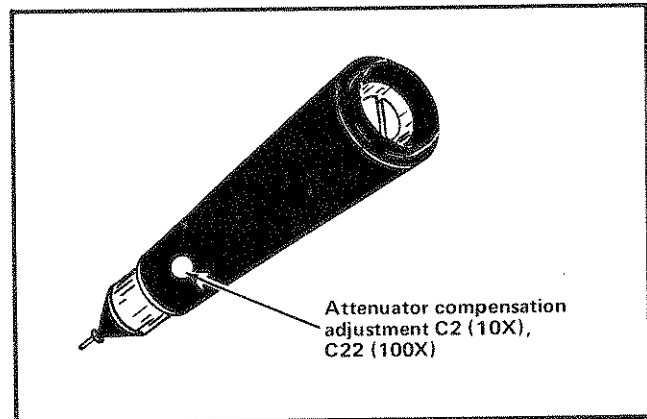

Fig. 5-9. Location of attenuator compensation adjustment.
- f. ADJUST—C2 (10X) or C22 (100X) attenuator compensation, see Fig. 5-9 for a square leading corner on the test oscilloscope waveform.
f. ADJUST—C2 (10X) or C22 (100X) attenuator compensation, see Fig. 5-9 for a square leading corner on the test oscilloscope waveform.